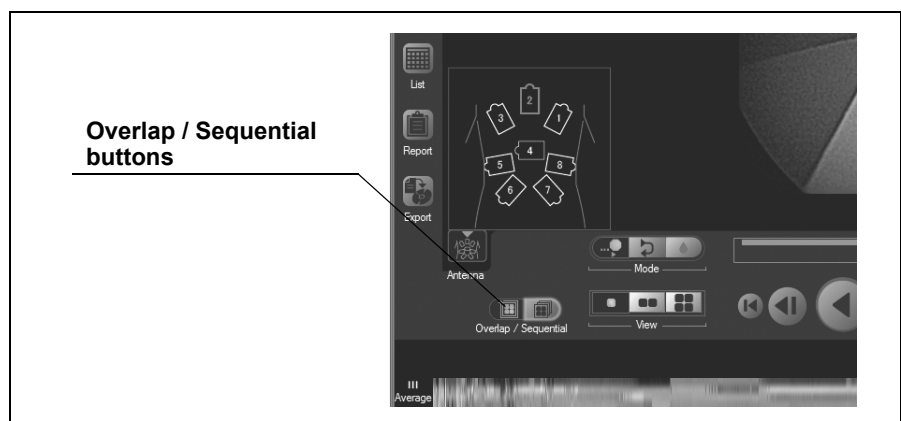

Figure 6.23
1. Click either of the [Overlap / Sequential] buttons (see Figure 6.23).